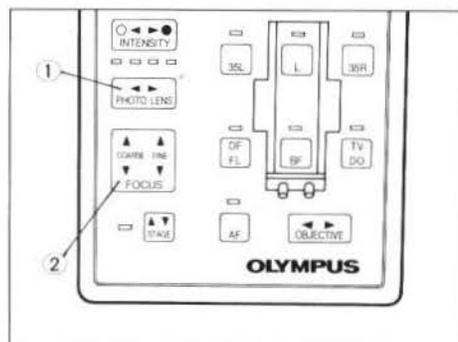

Fig. 25
- ★ All photo eyepieces can be used by means of the PHOTO LENS button ①, although the 2.5X photo eyepiece makes the following procedure easier because of its wide field of view. (Fig. 25)
5. Press the coarse and fine adjustment (FOCUS) button ② to bring the stage up to the closest point to the objective. (Fig. 25)